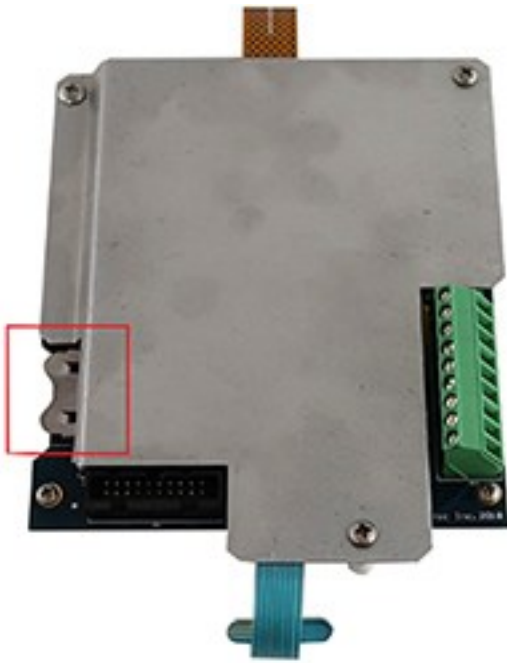

Figure 9-2. Lithium battery location
1. Open the swing panel located at the bottom-left edge of the plate that protects the circuit board below the USB port (Figure 9-2 [p. 49]).